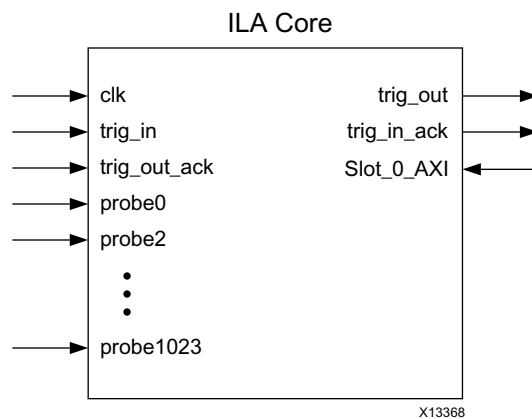

Figure 1-1: ILA Core Symbol
Signals in the FPGA design are connected to ILA core clock and probe inputs (Figure 1-1). These signals, attached to the probe inputs, are sampled at design speeds and stored using on-chip block RAM (BRAM). The core parameters specify the number of probes, trace sample depth, and the width for each probe input. Communication with the ILA core is conducted using an auto-instantiated debug core hub that connects to the JTAG interface of the FPGA.
**Note:** The numerical range from probe3 to probe1022 is indicated by ellipses (...) in Figure 1-1.